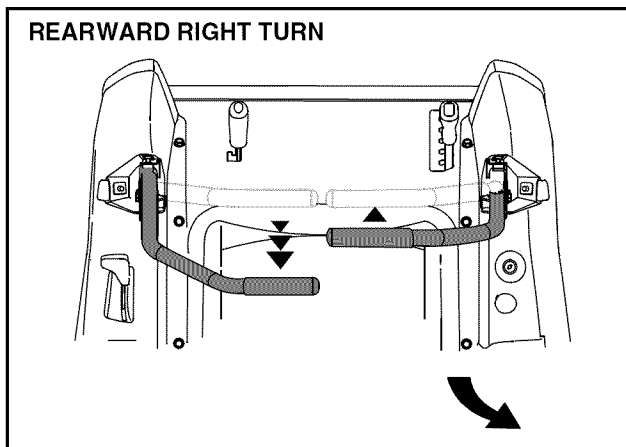

Figure 18
- To turn to the right while traveling in reverse, move the right drive control lever forward of the left lever. See Figure 18.